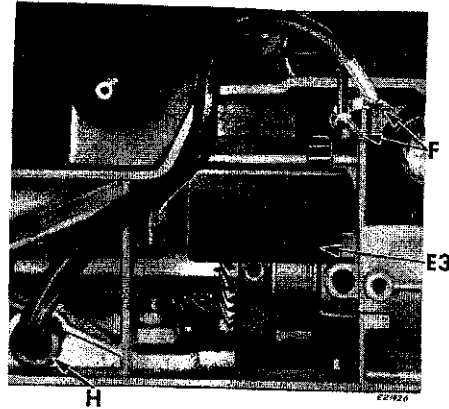

Fig. 3. Removing SINGERLIGHT Wires
2. Remove oil shield E3, Fig. 3 to obtain access to wire connections, unscrew two wire connectors and untwist wires at F, Fig. 3
5. Remove light socket and its wires by passing wires down through rubber grommet H, Figs. 3 and 4